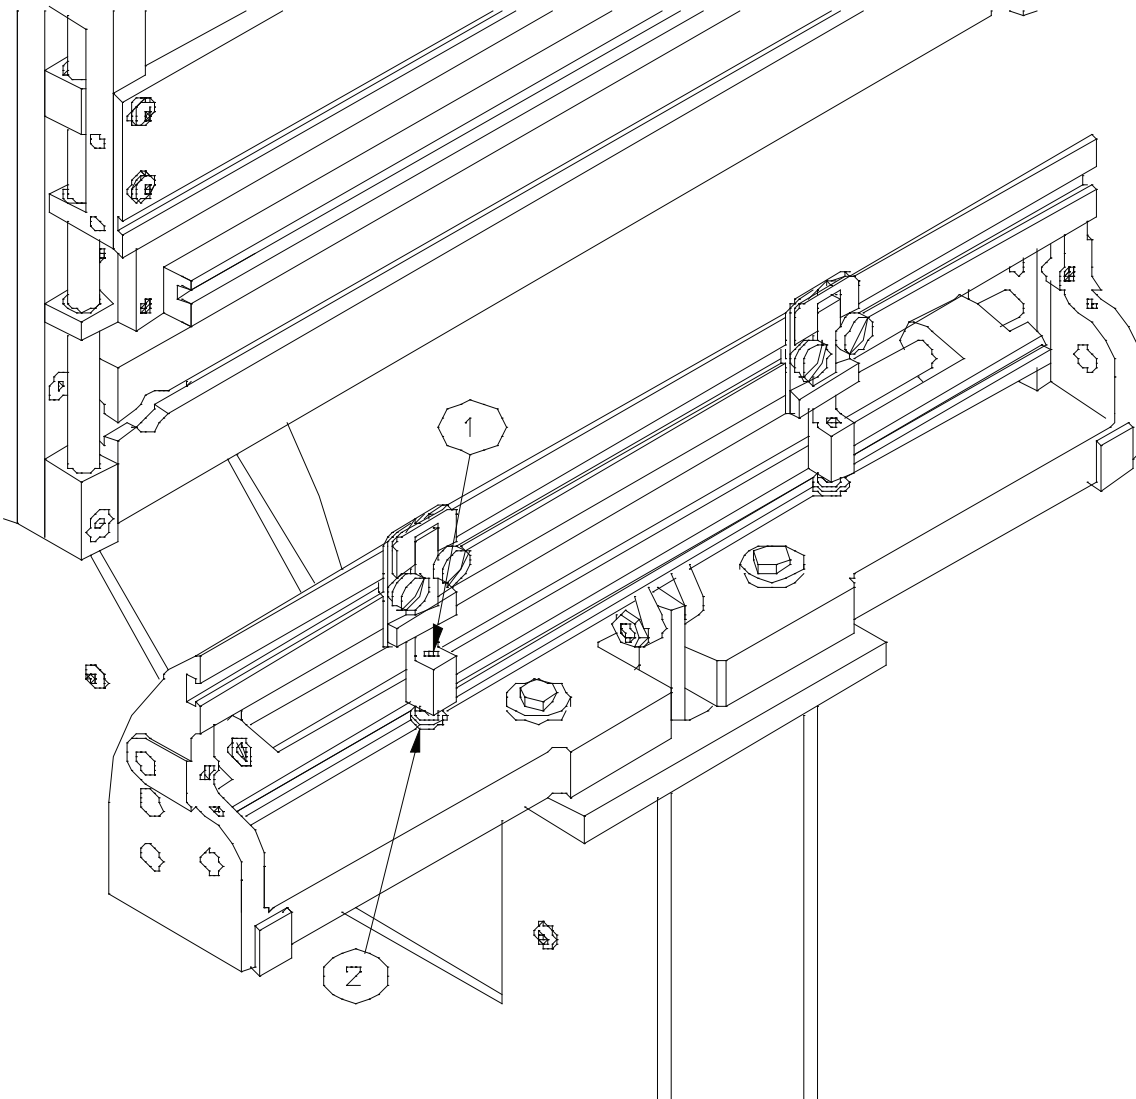

Figure 3 - Raising or Lowering Clincher
3.2 RAISING OR LOWERING THE CLINCHERS (See Figure 3)